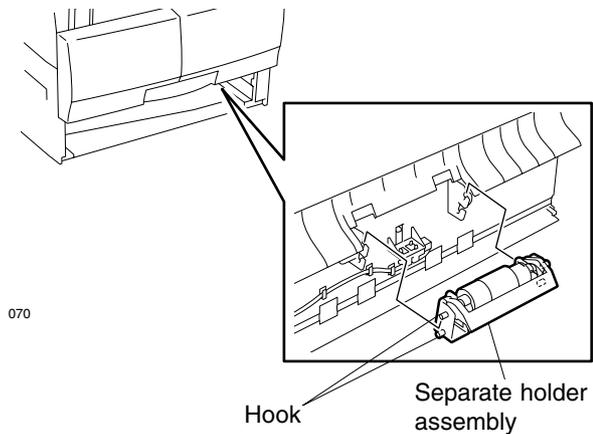

Fig. 9-7-1
2. Remove separate holder assembly. (See Fig. 9-7-1)
(See Fig. 9-7-1)